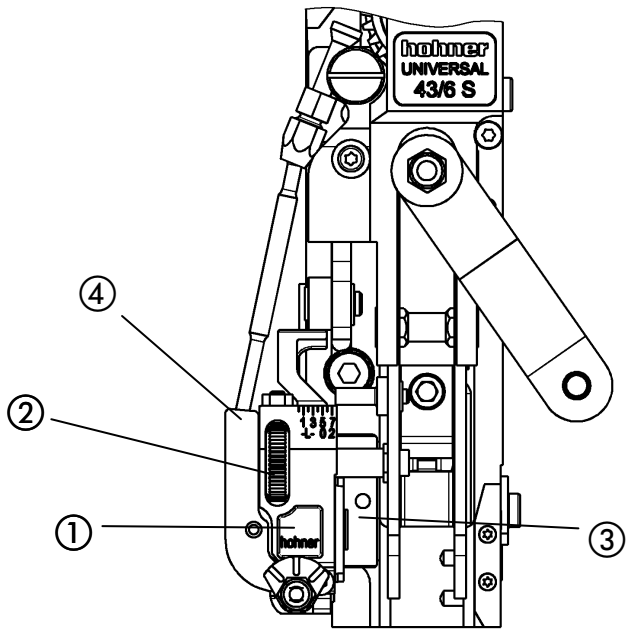

Fig. 31
- Fig. 31 -
- To replace the knife, move the knife box ① completely away from the guide ③ by turning the knurling wheel ② and remove from the stitching head.
- Replace knife slider ⑤ in the knife box ① (arrow B), compressing the pressure spring of the knife slider with a screwdriver, and pushing it into the knife box. Make sure that the pressure spring is not bent.
- Place knife box ① on the guide ③.
- Attach flexible wire feed to drill hole ④ in knife box.